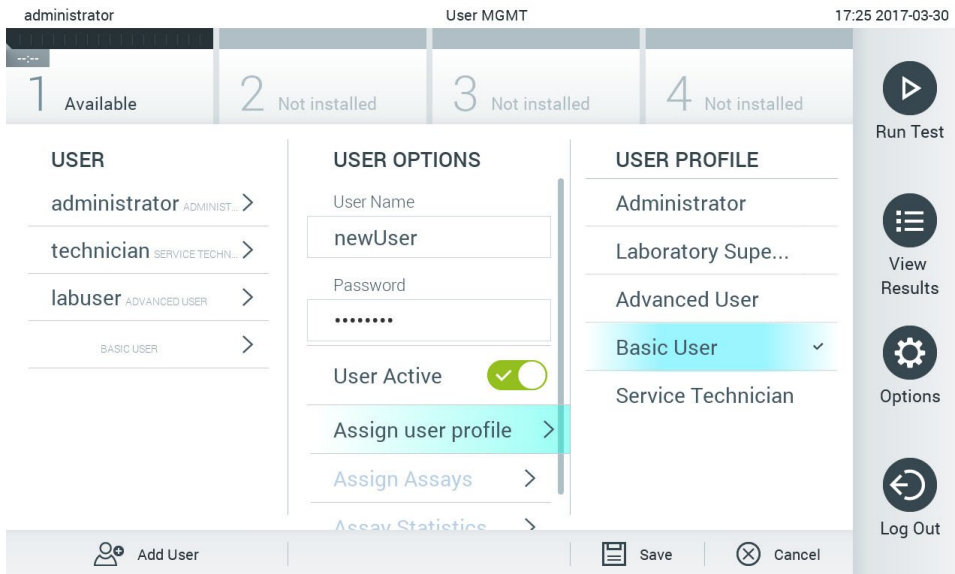

Figure 65. Assigning a user profile to a new user.
4. Press **Assign User Profile** and assign the appropriate user profile (from the list on the right of the content area) to the new user (Figure 65).